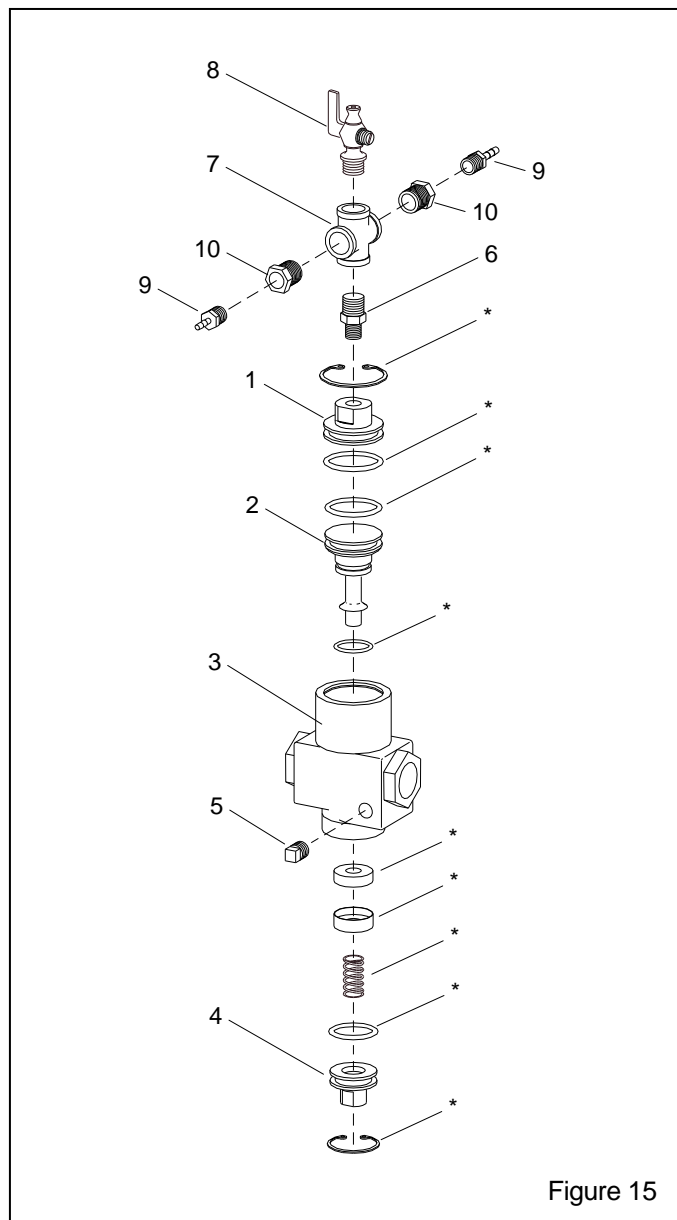

Figure 15
9.8 Inlet Valve, 1/2-Inch, Figure 15